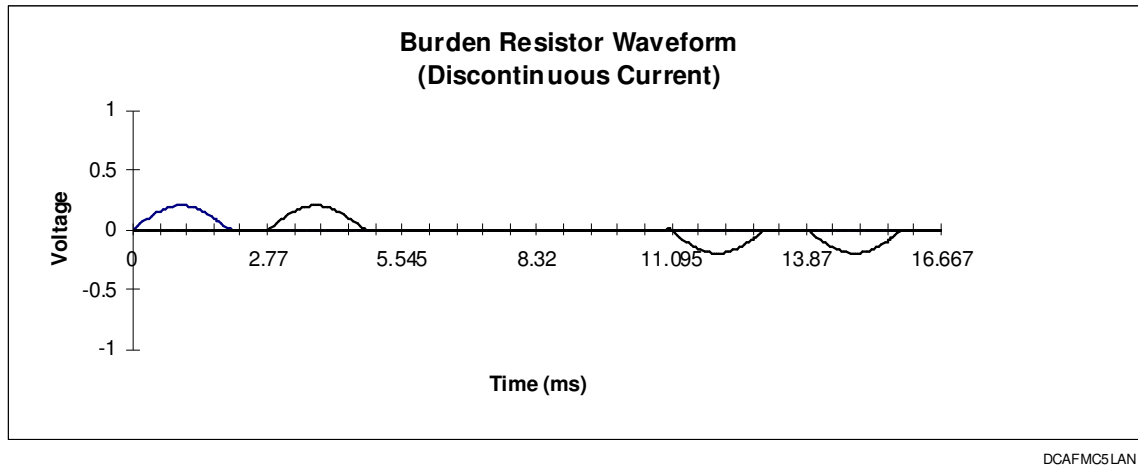

Figure 3-5. Burden Resistor Waveform (Discontinuous Current)
- 13) Turn the drive on while observing the scope. Apply a run command, such that the “RUNNING” LED is illuminated. Slowly increase the current command through the calibration parameter documented in step 7-a, while observing the scope. Stop increasing the current command when voltage pulses are observed on the scope. The observed waveform should resemble that of Figure 3-5.
- 22) Correct the CT polarities by switching the wire pair for the CT(s) whose feedback pulses are inverted from those shown in Figure 3-5.